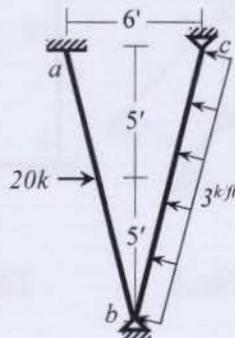

Fig. 3
- Use Stiffness Method considering flexural deformations only to calculate the unknown rotations at joint *b* and *c* of the frame *abc* loaded as shown in Fig. 3